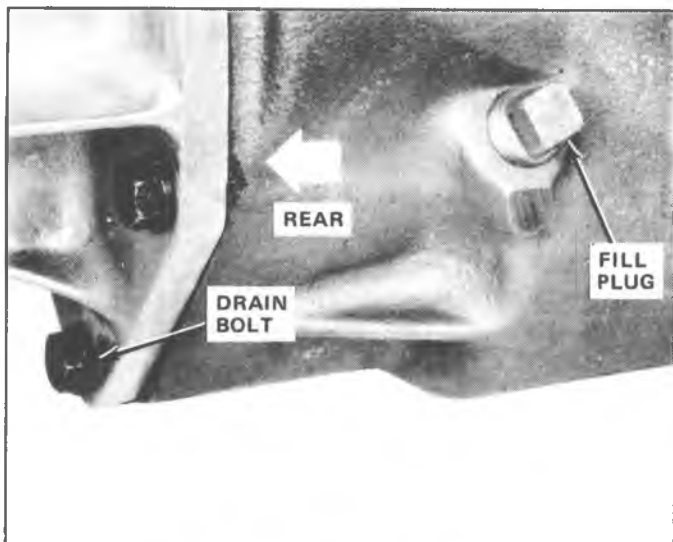

Fig. 3R-Drain Transmission
1. Remove lower extension housing bolt and drain transmission (fig. 3R).
6. Remove fill plug from right side of case (fig. 3R). Working through the plug opening drive out countergear roll pin with a 3/16 inch pin punch that has been chamfered slightly.